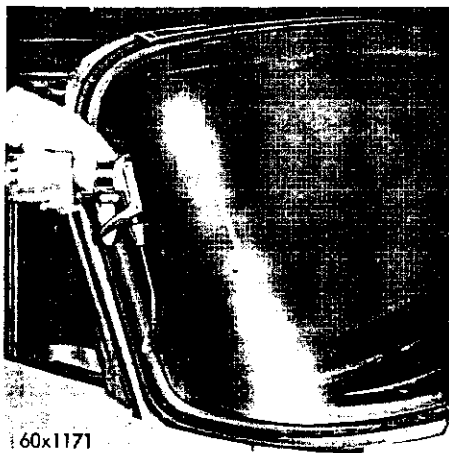

Fig. 26—Sealing the Windshield Weatherstrip
(3) It is advisable to inspect and seal the seam joint between the roof panel and windshield opening fence.
(4) Form a ball of sealing compound and place it in each moulding retaining clip bolt holes.
(5) When installing the mouldings, press the retaining clip bolts through the balls of the sealing compound.
(6) Use black weatherstrip cement to seal between the windshield glass and the weatherstrip (Fig. 26).
(7) Insert the nozzle of dispensing gun about  $\frac{1}{8}$  inch between the glass and weatherstrip.
(8) Apply a bead of cement between the glass and weatherstrip.
(9) Apply about three feet at a time, clean the excess off with a cloth moistened with solvent.
(10) Place the glass in position across the cowl.
(11) Slide the upper edge of the glass into the channel of the weatherstrip.
(12) Pound the glass with the palm of the hand, using an upward motion, until glass is fully seated in the channel of the weatherstrip at top, bottom and sides of glass.